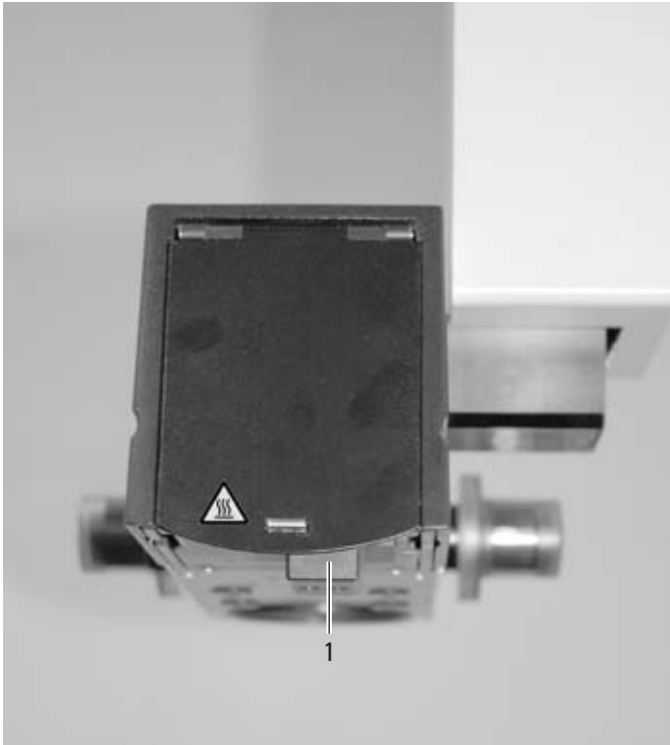

Fig. 1
- ⇒ Slide the quick-change lamp mount (1) to the other side (see the Leica M620 surgical microscope user manual) (Fig. 1).